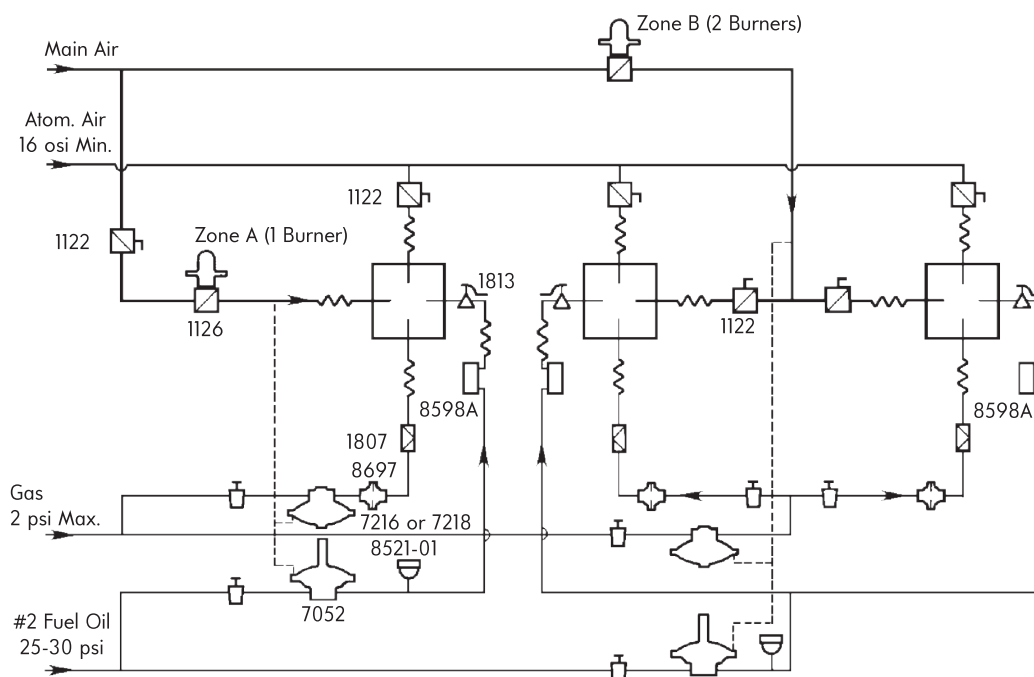
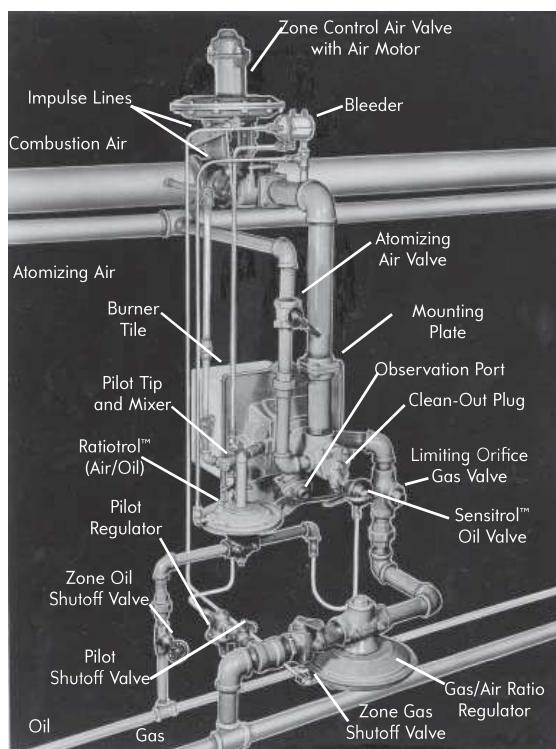

Figure 1. Suggested piping arrangement for 6422 and 6514 Burners for gas and/or light oil.
Figure 2. Piping arrangement for gas pressure less than air pressure (bleeder required).
- Gas supply pressure to the air/gas ratio regulator should be at least 2 osi greater than the high fire burner air pressure. If less, a bleeder (Bul. 8654/8655) must be installed in the impulse line. See Figure 2.
- Pipe air and fuel lines in a manner similar to that shown in Figure 1. Flexible connections (Bul. 8770) are recommended in air and fuel lines to minimize strain from piping and thermal expansion.
- Connect impulse piping as shown in Figure 1 (or as in Figure 2 if a bleeder is used). These piping arrangements are designed to keep air and gas flows on desired ratio at all firing rates. (Ref: Bulletin 7216, Instructions 7218 and Bul. 8654/8655.)